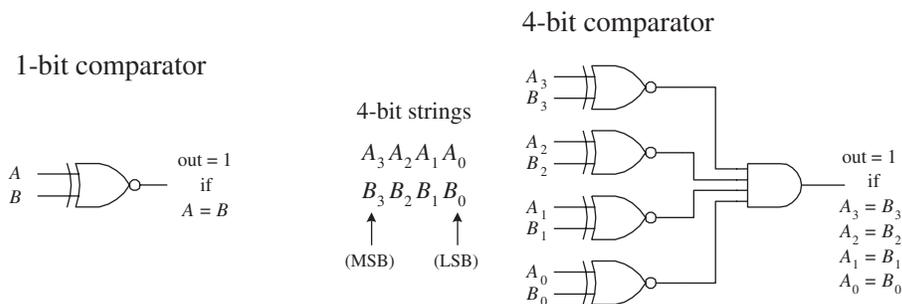
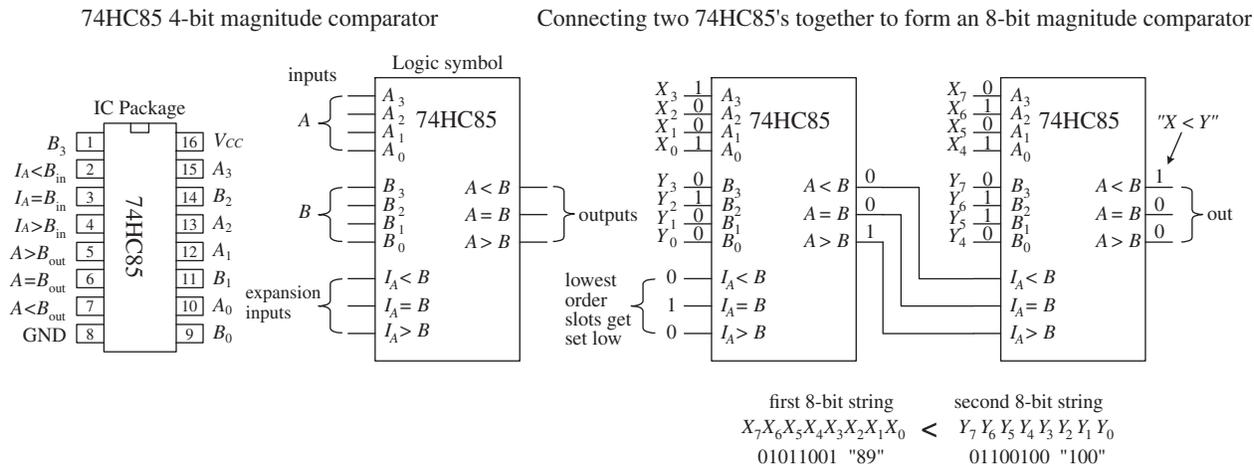

FIGURE 12.48
FIGURE 12.49
A digital comparator is a circuit that accepts two binary numbers and determines whether the two numbers are equal. For example, Fig. 12.48 shows a 1-bit and a 4-bit comparator. The 1-bit comparator outputs a high (1) only when the two 1-bit numbers A and B are equal. If A is not equal to B , then the output goes low (0). The 4-bit is basically four 1-bit comparators in one. When all individual digits of each number are equal, all XOR gates output a high, which in turn enables the AND gate, making
Now, say you want to know which number, *A* or *B*, is larger. The circuits in Fig. 12.48 will not do the trick. What you need instead is a *magnitude comparator* like the 74HC85 shown in Fig. 12.49. This device not only tells you if two numbers are equal, but also which number is larger. For example, if you apply a 1001 (9_{10}) to the $A_3A_2A_1A_0$ inputs and a second number 1100 (12_{10}) to the $B_3B_2B_1B_0$ inputs, the $A < B$ output will go high (the other two outputs, $A > B$ and $A = B$, will remain low). If *A* and *B* were equal, the $A = B$ output would have gone high, and so on. If you wanted to compare larger numbers—say, two 8-bit numbers—you simply cascade two 74HC85 comparators together, as shown on the right side of Fig. 12.49. The leftmost 74HC85 compares the lower-order bits, while the rightmost 74HC85 compares the higher-order bits. To link the two devices together, you connect the output of the lower-order device to the expansion inputs of the higher-order device, as shown. The lower-order device's expansion inputs are always set low ($I_A < B$), high ($I_A = B$), and low ($I_A > B$).